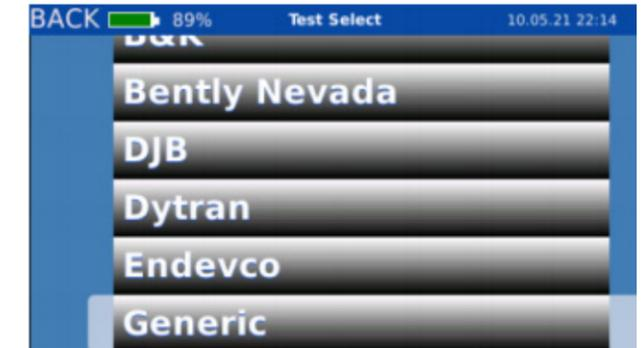

Figure 22. Select manufacturer
3. Select the manufacturer (Figure 22).